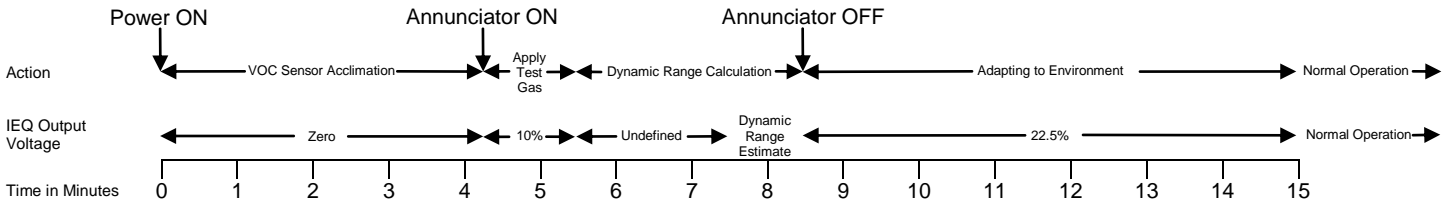

Figure 5: Sensor Start-up Timeline
At each power up, the sensor enters the start-up period for 15-minutes. The IEQ output will follow the timing shown in figure 5.
- Remove sensor power for at least one minute and reapply. The IEQ sensor will set the IEQ output to zero volts and display units will show zero percent contaminants. (Power ON in figure 5)
- The visual indication and the 10% output voltage confirms that the IEQ sensor is in its verification/commissioning test. (Apply Test Gas period in figure 5)
- Read and record the IEQ output voltage or LCD display approximately 2 to 4 minutes following the stimulus gas application to determine the dynamic range measurement. (Dynamic Range Estimate period in figure 5)